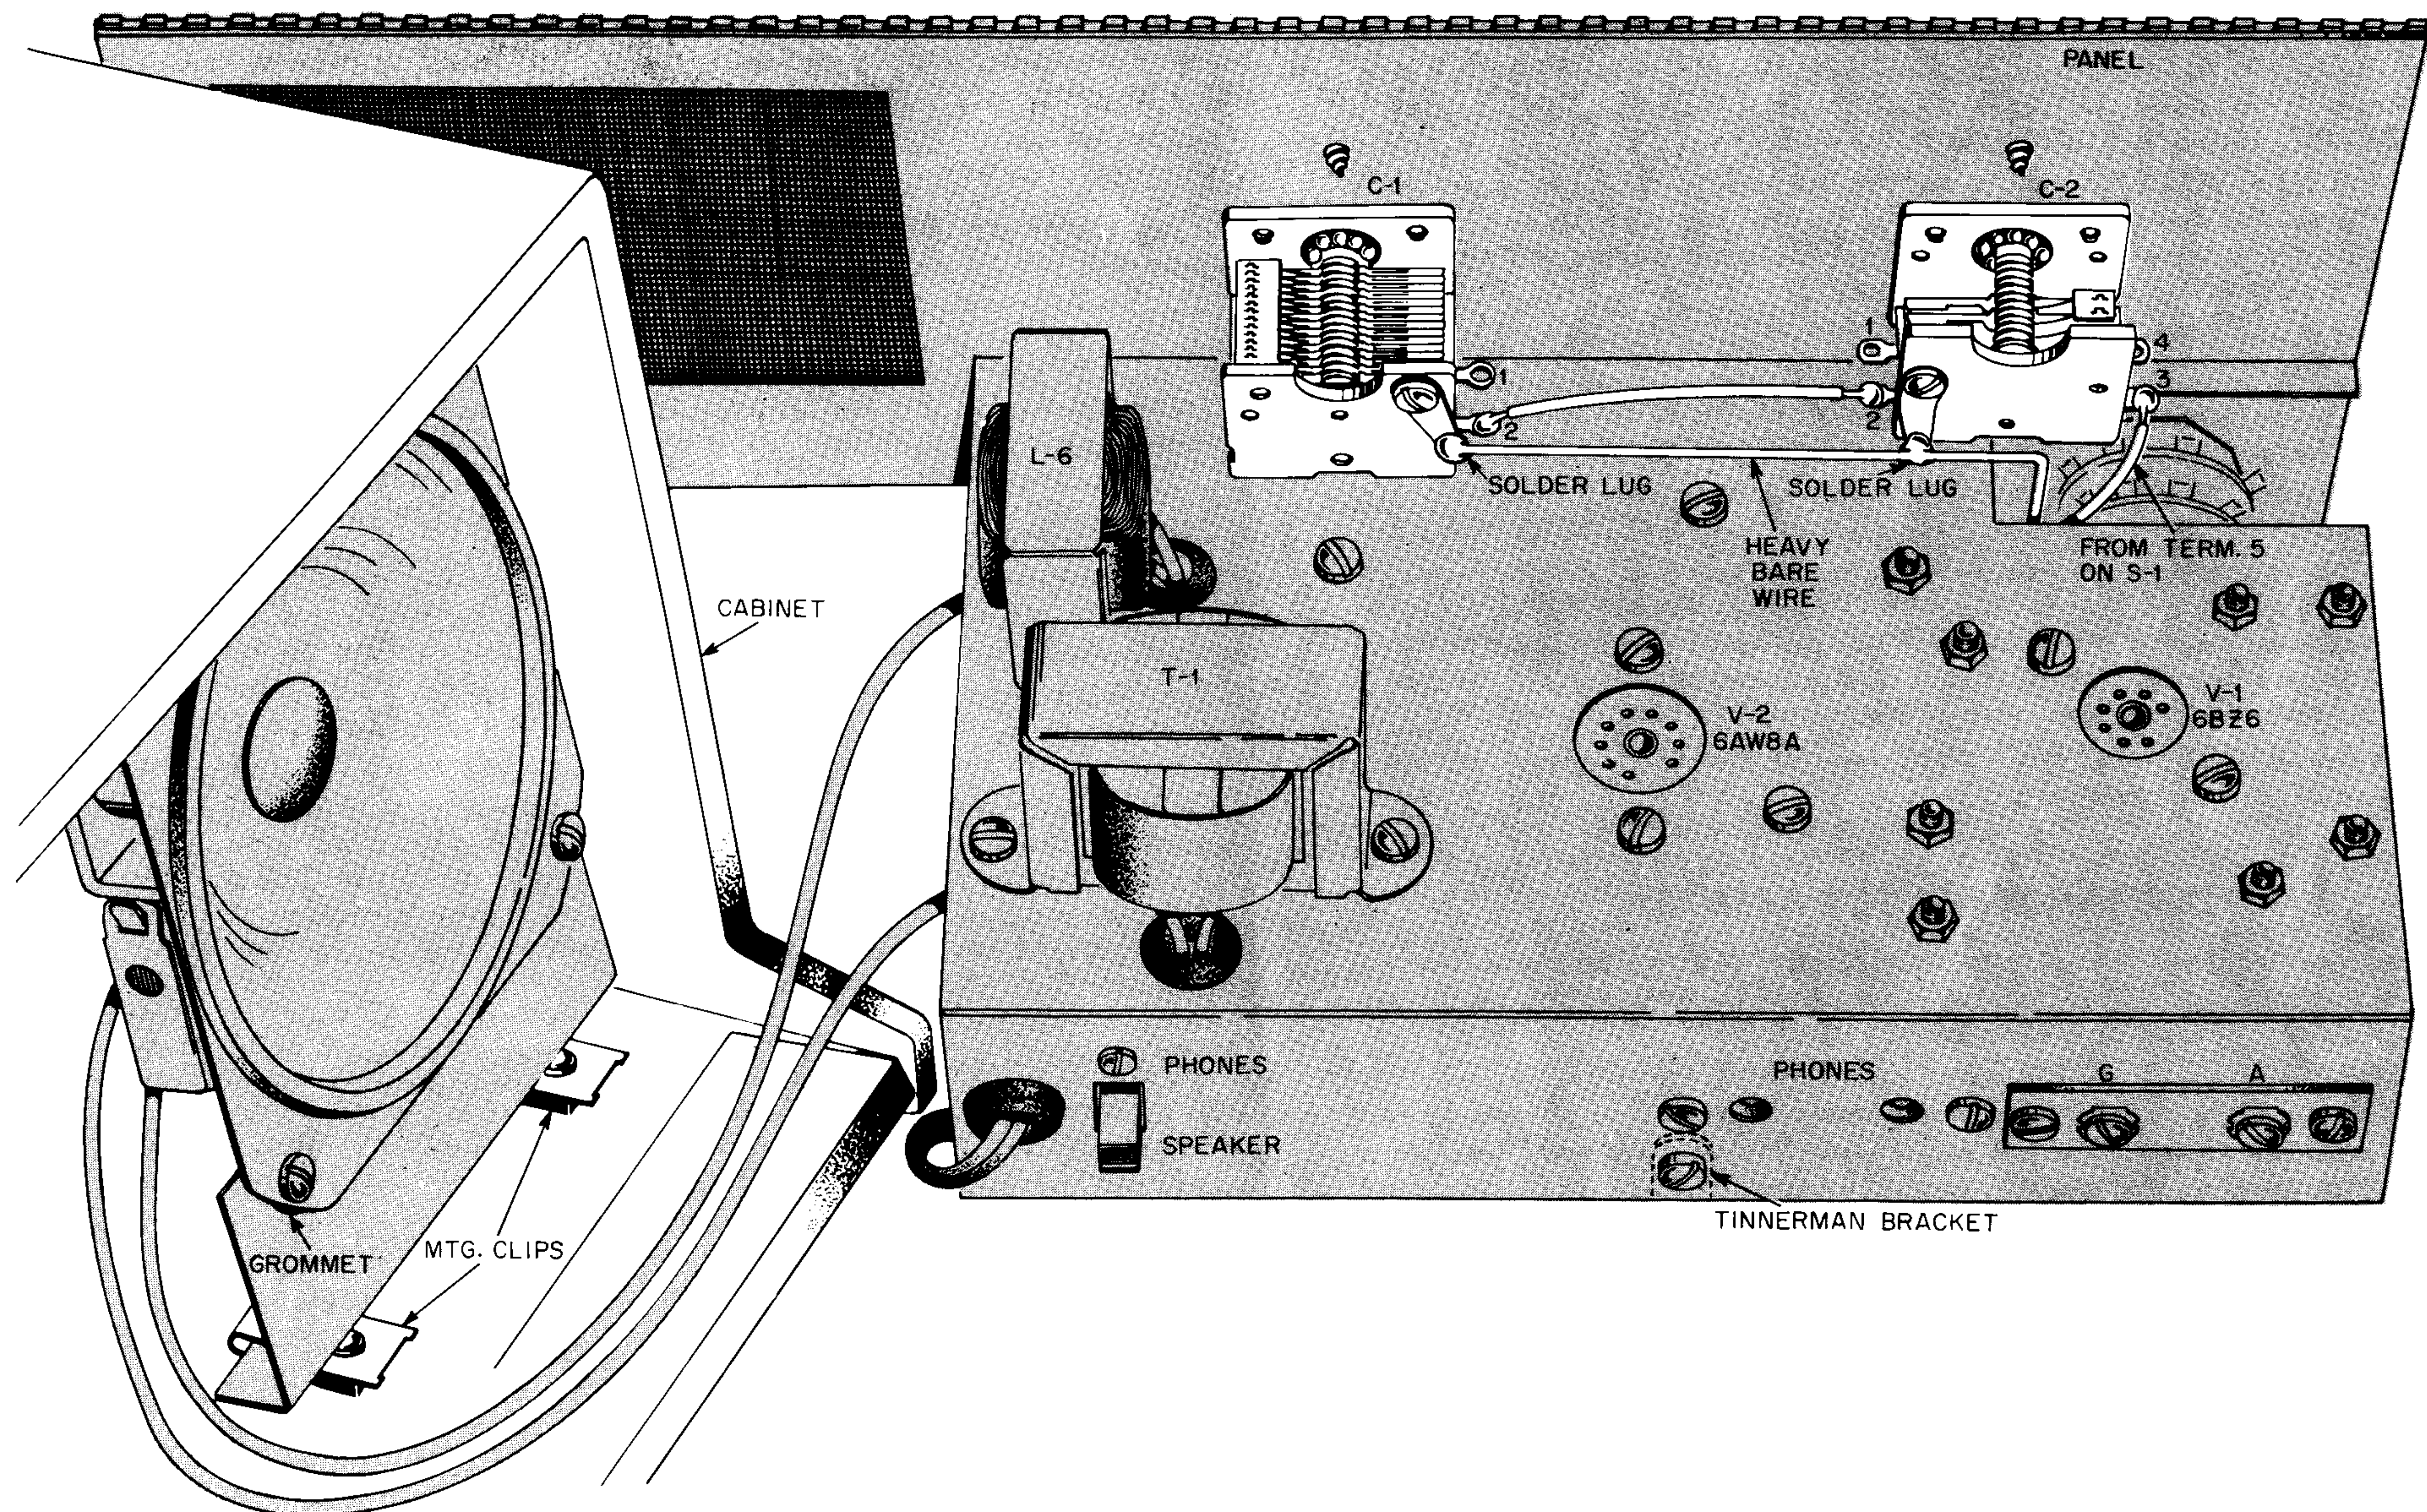

FIGURE 11. FINAL WIRING
- ☐ Insert the V-1, 6BZ6 tube and the V-2, 6AW8A tube in their sockets, as indicated in Figure 11.
The antenna brings into the receiver signals covering all bands. The better the antenna, the stronger the signal fed the receiver, and the greater the number of stations that can be received. Figure 11 shows how to install a good antenna.